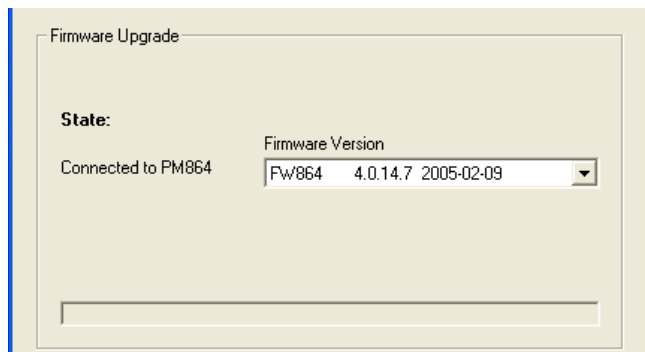

Figure 51. A Firmware version displayed in the text field
- Click **Connect** button and press the **Init** push-button on the PLC until the **Run** LED starts to blink. Wait for a minute until a message appears. If the connection is successful, a confirmation text appears in the Firmware Version text field (Figure 51).